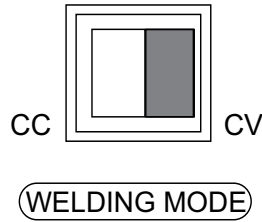

Figure 46. Welding Mode Switch (CV Mode)
- For **CV welding**, place the welding mode rocker switch (Figure 46) in the CV position.